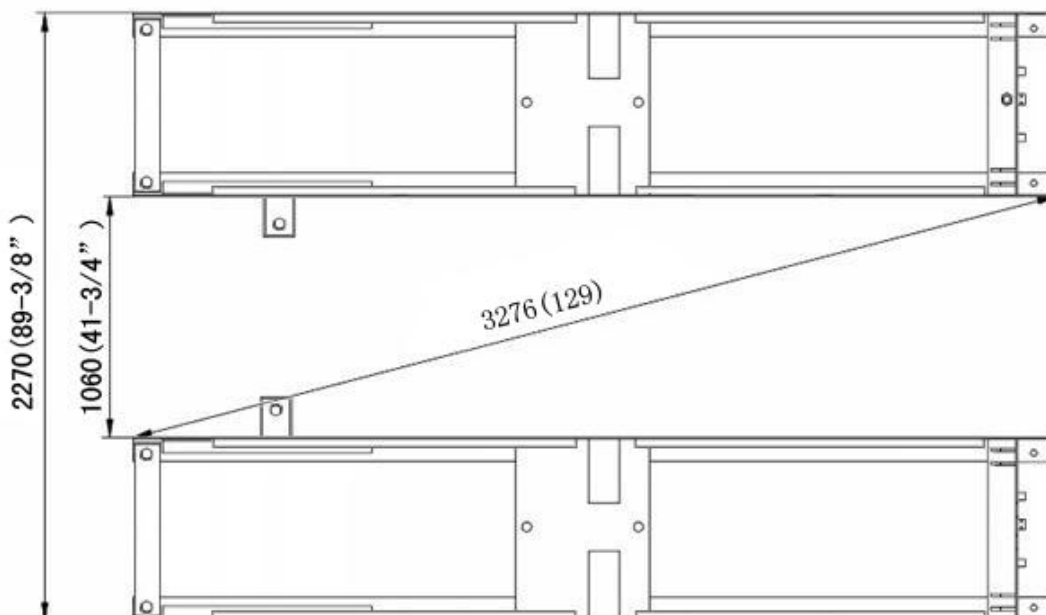

Fig. 4
- 1.1 PX12/PX12A On surface installation foundation (See Fig. 4).